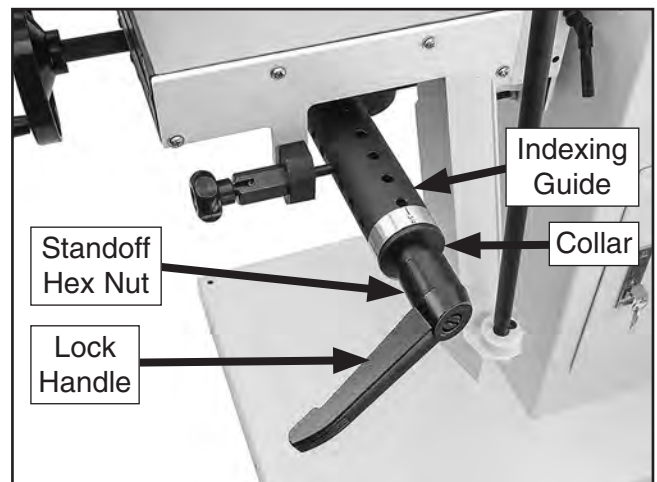

Figure 11. Installing components on indexing guide shaft.
4. Place collar inside end of indexing guide with flat side facing out, then secure to stud with 8mm fender washer, standoff hex nut, lock handle, compression spring, and shoulder screw (see **Figure 11**).